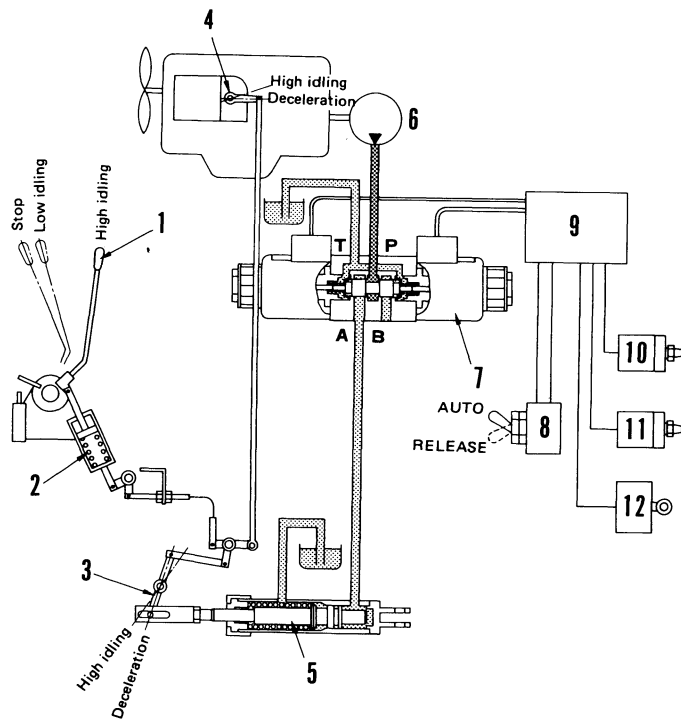

Fig. 1
If the fuel control lever (1) is placed in the High idling position, the loose spring (2) and intermediate shaft (3) will move, and the engine governor control (4) will also try to move to the High idling position. However, the force of the spring inside the deceleration cylinder (5) is greater than the force of the loose spring, so the engine governor control (4) only moves to the half-throttle (deceleration) position (Fig. 1).
If all the control levers are returned to NEUTRAL while the engine is running, each pressure switch (10), (11) and limit switch (12) will turn off to return the corresponding solenoid valve. As a result, the oil from the charging pump does not flow into the boom side of the deceleration cylinder (5) and the pressure is eliminated, then the spring in the cylinder returns the piston, which in turn returns the engine governor control (4) to the decelerating position through the intermediate shaft (3) (Fig. 1). At this time, the fuel control lever (1) is kept at the set position regardless of the operation of the engine governor control (4). The engine governor control (4) is returned to the decelerating position about four seconds after the control levers are returned to NEUTRAL.